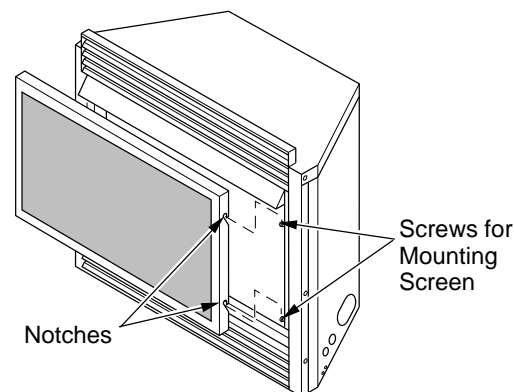

Figure 25 - Installing Fireplace Insert Screen
- Install fireplace insert screen by slipping notches of fireplace insert screen over screws on front of fireplace insert (see Figure 25).